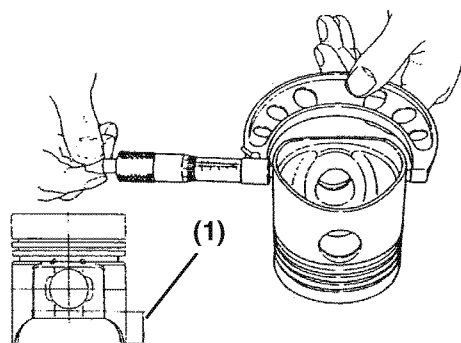

Figure 6-63
- Measure the diameter of the piston skirt at 90° to the wrist pin bore as shown (**Figure 6-63**). Measurements must be taken at a specified distance (**Figure 6-63, (1)**) from the bottom of the piston, based on engine model. Record the measurements. See *Piston* on page 6-10 for specifications.